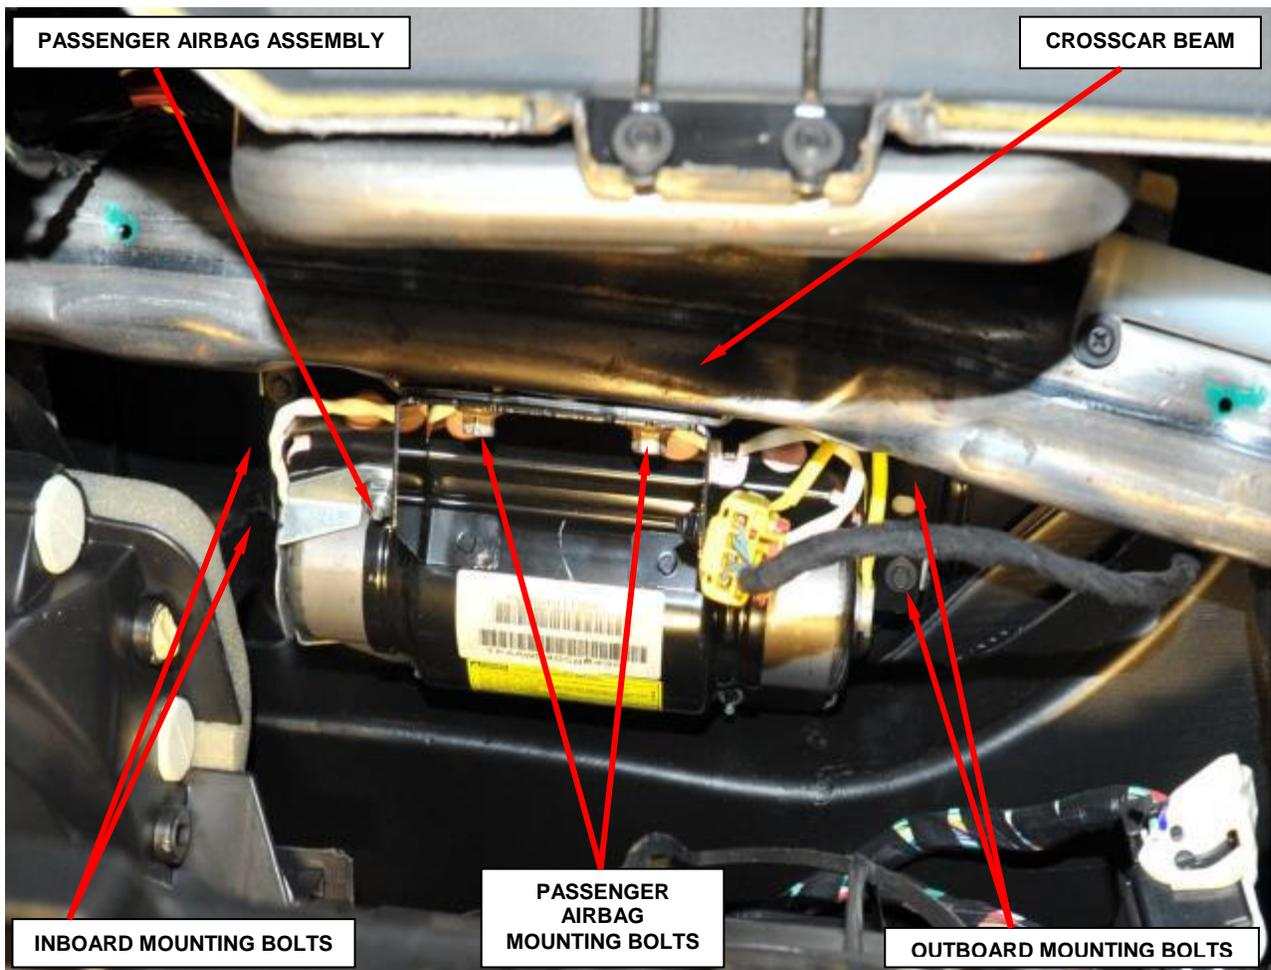

Figure 42 – Passenger Airbag Mounting Locations
4. Remove and save the two inboard mounting bolts to the passenger airbag assembly just below the distribution duct and to the left of the distribution housing (Figure 42).
5. Remove and save the two outboard mounting bolts to the passenger airbag assembly just below the distribution duct (Figure 42).
6. Remove and save the two passenger airbag assembly mounting bolts to the crosscar beam (Figure 42).
12. Install the two passenger airbag mounting bolts to the crosscar beam. Torque bolts to 103 in. lbs. (11.6 N·m) (Figure 42).
13. Install the two inboard mounting bolts to the passenger airbag just below the distribution duct and to the left of the distribution housing. Torque the screws to 25 in. lbs. (2.8 N·m) (Figure 42).
14. Install the two outboard mounting bolts to the passenger airbag just below the distribution duct. Torque the screws to 25 in. lbs. (2.8 N·m) (Figure 42).